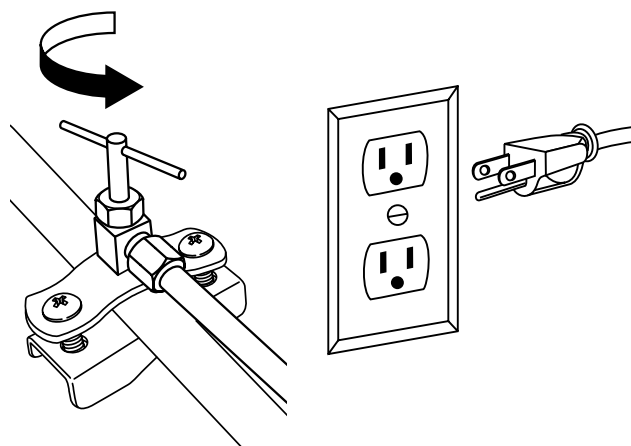

Figure 15
4. Insert the electrical plug for the combined refrigerator/freezer into the electrical outlet (**Figure 15**).